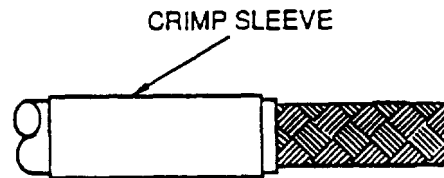

Figure 45. M39029/51 Crimp Sleeve
a. As shown in Figure 45, cut cable end square and remove outer jacket to $33/64$ -inch dimension. For cable stripping refer to WP 009 00.